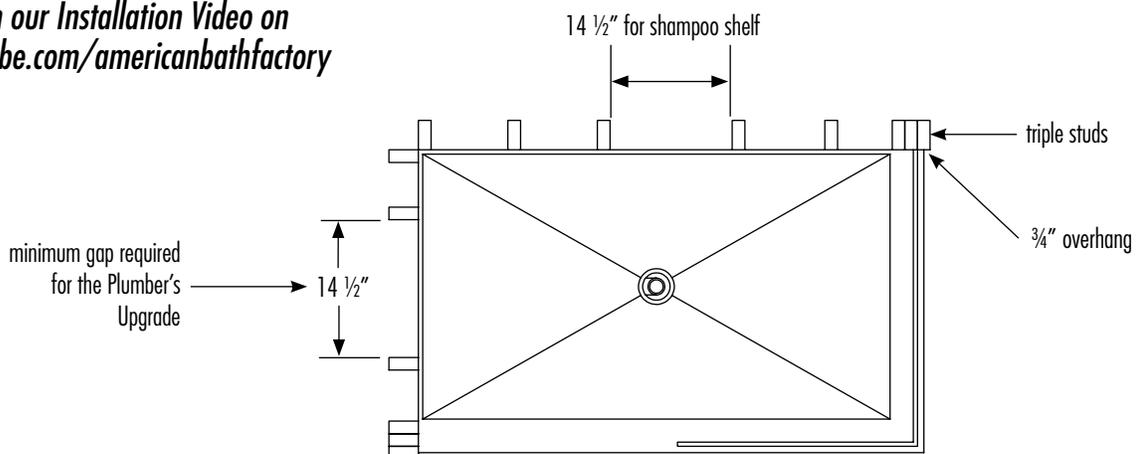

figure 2
1. Add studs where the shower panel and door connect. We recommend triple studs in these areas to make room for the cement board and hinge attachment. Leave a  $3/4"$  overhang outside of the shower pan threshold if possible. Refer to (*fig. 2*).
2. Check the location and size of the drain, make sure it is in the correct position, relocate drain if necessary. See section (5) for drain instructions.
4. If you purchased the Plumber's Upgrade and/or the shampoo shelf, check that everything fits with clearance between the studs. Measure the studs to make sure they are  $14\ 1/2"$  apart. See recommended stud locations (*fig. 2*). Relocate studs if necessary.